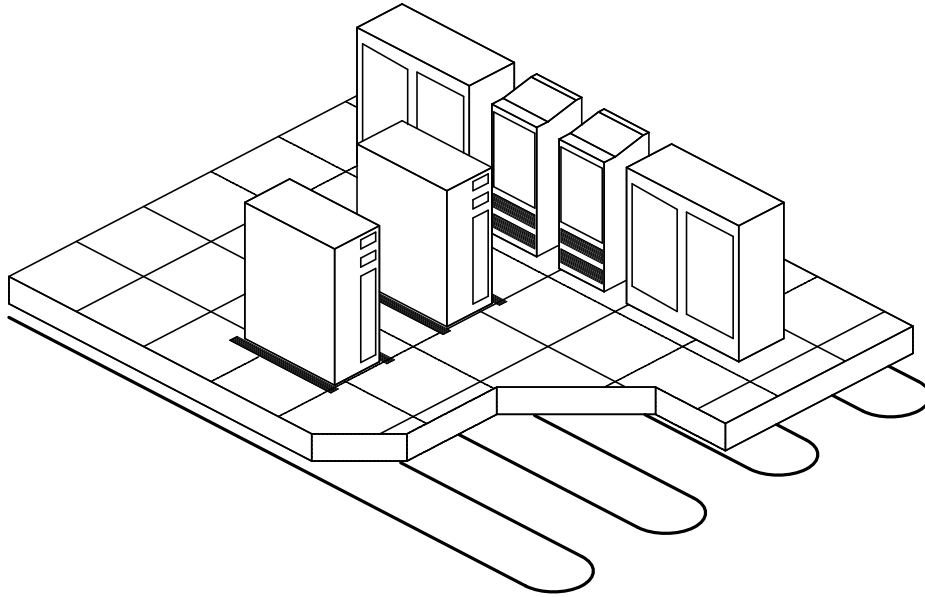

Figure 7-1
4. Starting from the PAL-AT panel, connect a minimum of 50' [15 m] of JMP-UD jumper cable (65' [20 m] for type JPP) before connecting the sensor cable. Route the sensor cable as shown on the contract drawings. Most designs require the sensor cable to be installed in a serpentine pattern of 4' [1.2 m] centers. Normally, this method gives satisfactory protection and does not require the cable to be repositioned when equipment is moved later. Typically, centers of 6' to 12' [2 m to 4 m] can be used if the facility has low risk (see figure 7-1).